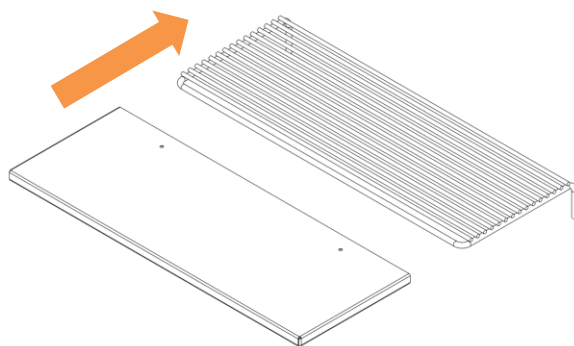

FIGURE 1
2. With the shelf supported, slide the **YS Stainless Slip-On Shelf Cover** over the wire shelf until the felt pads contact the wire frame. (FIGURE 1)